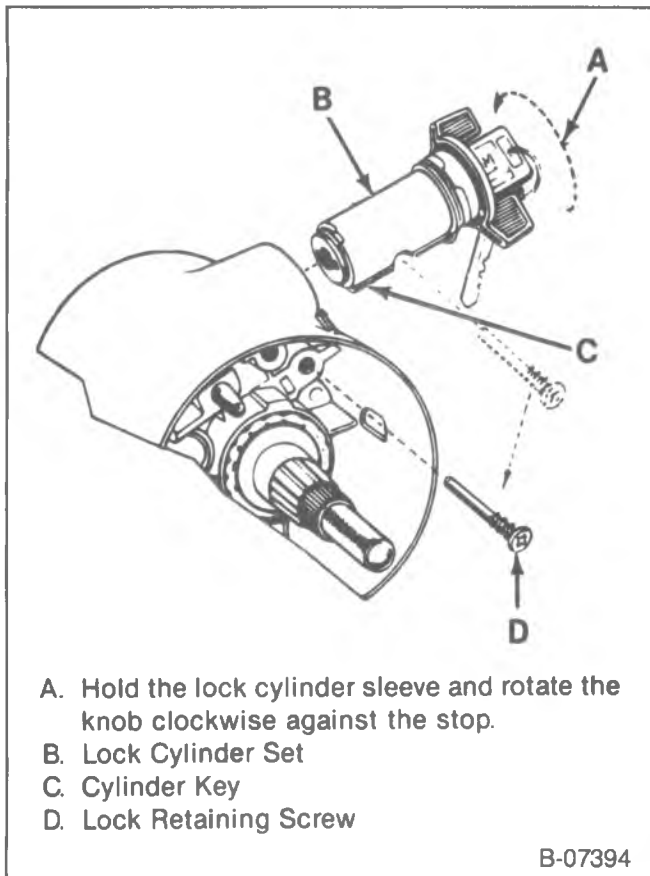

Figure 15—Lock Cylinder Installation
↔ Remove or Disconnect (Figure 15)
Install or Connect (Figure 15)
- Align the cylinder key with the keyway in the housing. Rotate as shown in figure 15.